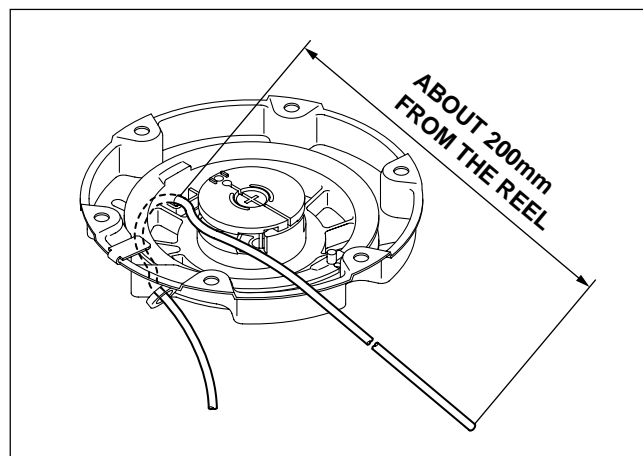

Fig. 9-7
(3) Tightening the set-screw.
(4) Storing the spring-power.
-2 : Set the reel to keep the position, whereby the rope hole of the reel and the rope guide make a direct line. (Fig. 9-7)
(Fig. 9-7)